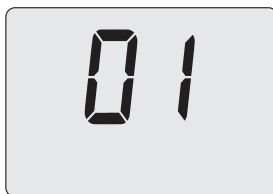

Fig. 8.5
- By using buttons 13 or 14 (Fig. 8.1) it is possible to modify the value of parameter A21 (Fig. 8.5).